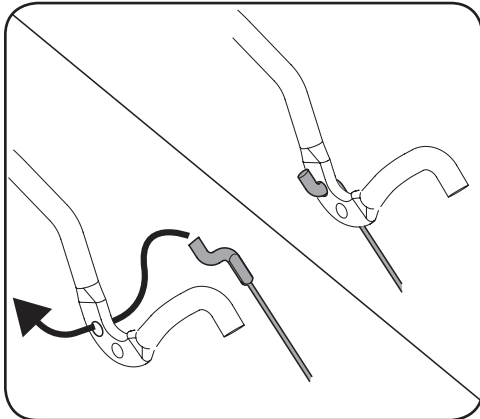

Figure 7-6
4. There is now sufficient slack in the drive control cable to grasp the z-fitting with your hand and move it from the front hole to the rear hole of the drive control. See Figure 7-6.